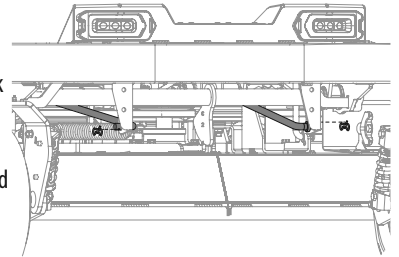

Figure 48
6. Remove the two bow-tie pins from the deck rods that secure the front center lift link brackets on the frame to the front-center lift brackets on the deck and pull the front end of the rods out of place. See Figure 48.